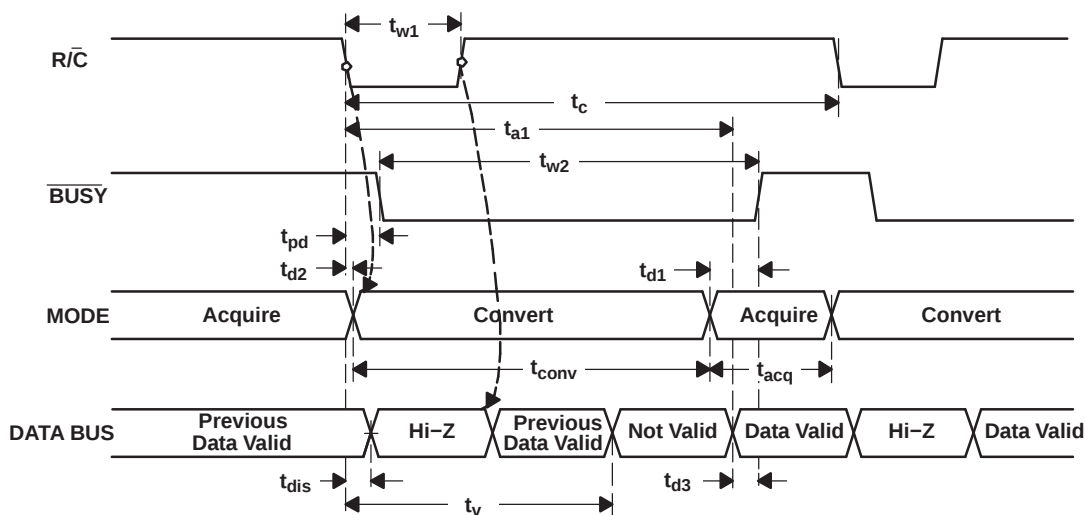
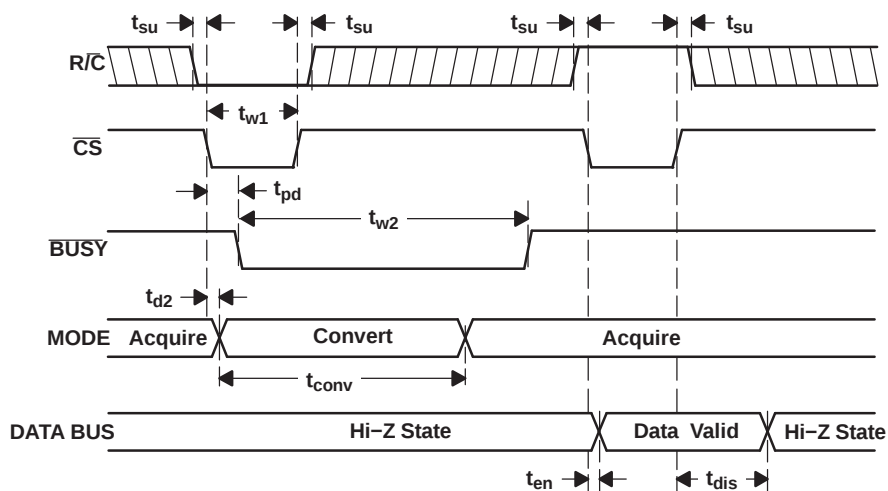
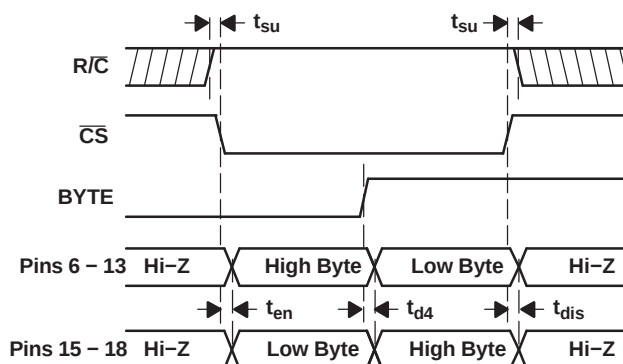

Figure 19. Conversion Timing with Outputs Enabled after Conversion ($\overline{\text{CS}}$ Tied Low)
Figure 20. Using $\overline{\text{CS}}$ to Control Conversion and Read Timing
Figure 21. Using $\overline{\text{CS}}$ and $\overline{\text{BYTE}}$ to Control Data Bus
The ADS8504 begins tracking the input signal at the end of the conversion. Allowing 4 μ s between convert commands assures accurate acquisition of a new signal. Refer to Table 1 for a summary of $\overline{CS}$, $\overline{R/\overline{C}}$, and $\overline{BUSY}$ states and Figure 19, Figure 20, and Figure 21 for the timing diagrams.
(1) See Figure 19 and Figure 20 for constraints on data valid from conversion $n-1$.
After conversion n is completed and the output registers have been updated, $\overline{\text{BUSY}}$ (pin 26) goes high. Valid data from conversion n is available on D11-D0 (pins 6-13 and 15-18). $\overline{\text{BUSY}}$ going high can be used to latch the data. Refer to Table 3 and Figure 19, Figure 20, and Figure 21 for timing specifications.
After conversion n has been initiated, valid data from conversion $n-1$ can be read and is valid up to t_2 (2.2 μs typ) after the start of conversion n . Do not attempt to read data from t_2 (2.2 μs typ) after the start of conversion n until $\overline{\text{BUSY}}$ (pin 26) goes high; this may result in reading invalid data. Refer to Table 3 and Figure 19, Figure 20, and Figure 21 for timing specifications.
The number of control lines can be reduced by tying $\overline{\text{CS}}$ low while using the falling edge of $\text{R}/\overline{\text{C}}$ to initiate conversions and the rising edge of $\text{R}/\overline{\text{C}}$ to activate the output mode of the converter. See Figure 19.